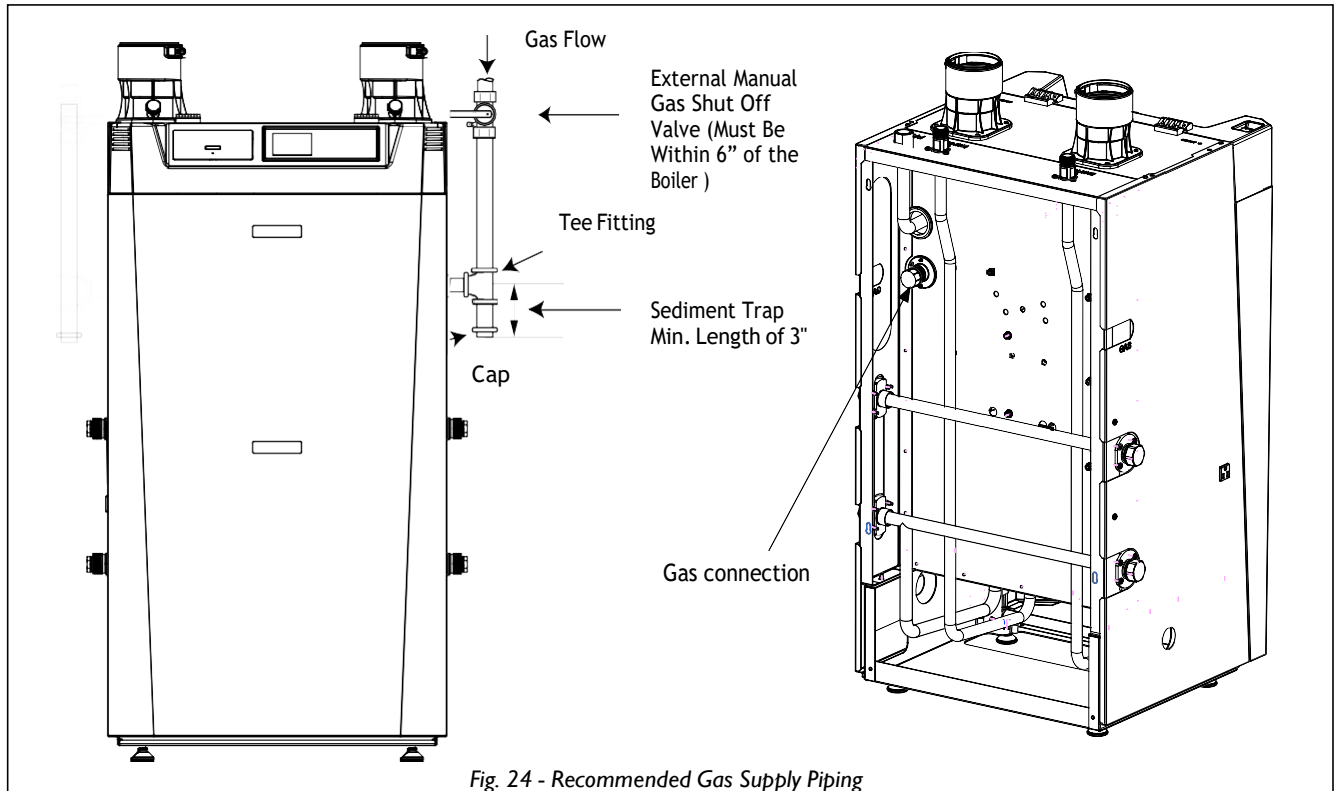
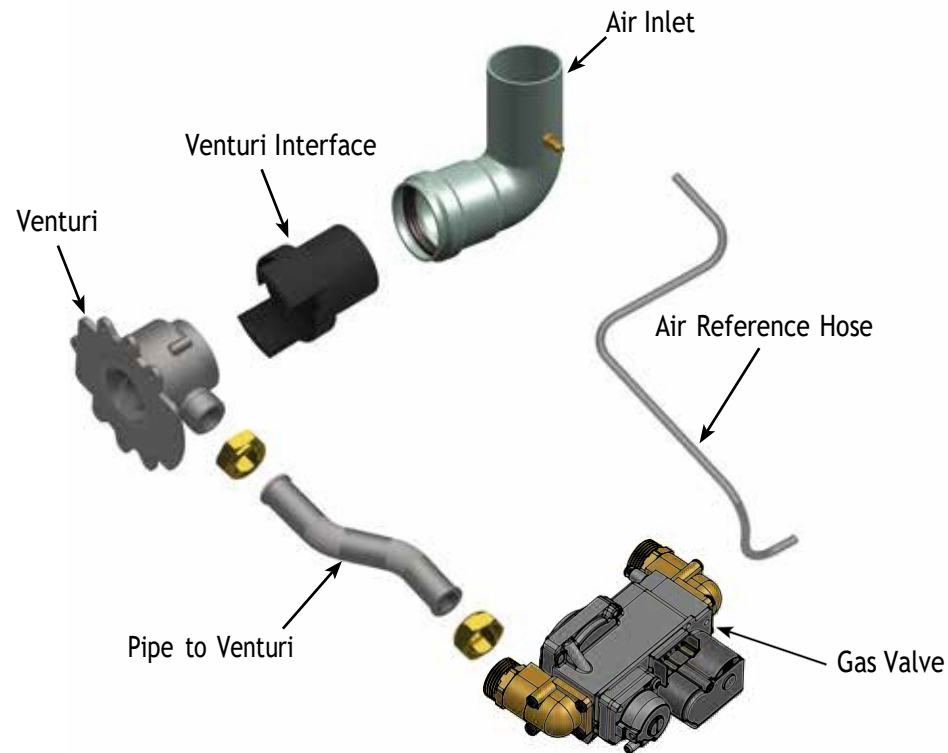

Fig. 24 - Recommended Gas Supply Piping
Fig. 27 - Gas Valve / Venturi Assembly - EXALT Heat Only/Combi 199
2. Install a manual shutoff valve in the gas supply piping as shown in Fig. 24 above. For installations in Canada, the installer must tag and identify the main shutoff valve.
3. Install a sediment trap (drip leg) on the gas supply line prior to connecting to the EXALT gas train as shown in Fig. 24 above.
- Prior to start up, ensure the unit is set to fire propane. Check the rating label for the type of fuel. Check the venturi for propane conversion label. If there is a conflict or doubt on the burner configuration, remove the venturi and check for proper propane gas orifice sizing on venturi labeling. Refer to Tables 1 and 3 below. See Fig. 24 and 25 on page 40 and Fig. 27 on page 41 for venturi location. Refer to Propane Conversion Instructions for proper removal and replacement of the venturi.